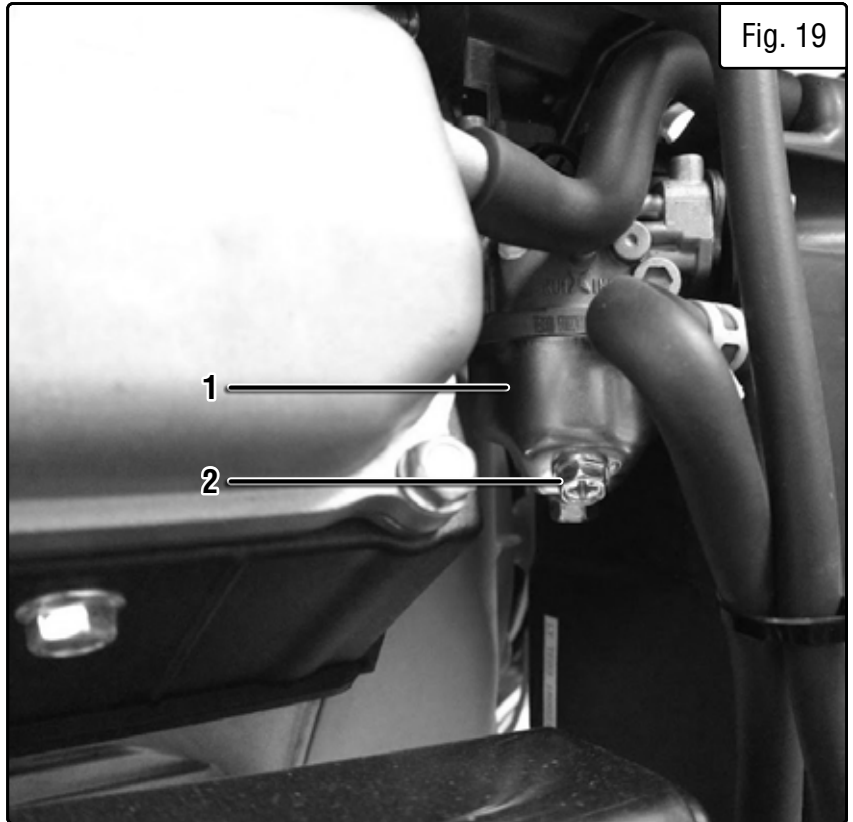

Fig. 19
3. The carburetor (Fig. 19 - 1) can be accessed on the left of the generator, right behind the air filter.